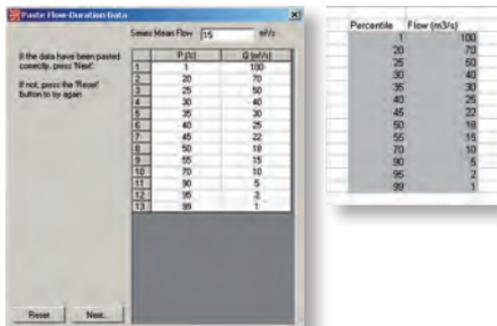

Figure 5.2 Entering a FDC using the 'Paste from Clipboard' function – copy and paste the area of grey cells from the spreadsheet.
- The grey cells shown on Figure 5.2 illustrate the area of a spreadsheet which should be copied and pasted for data entry.